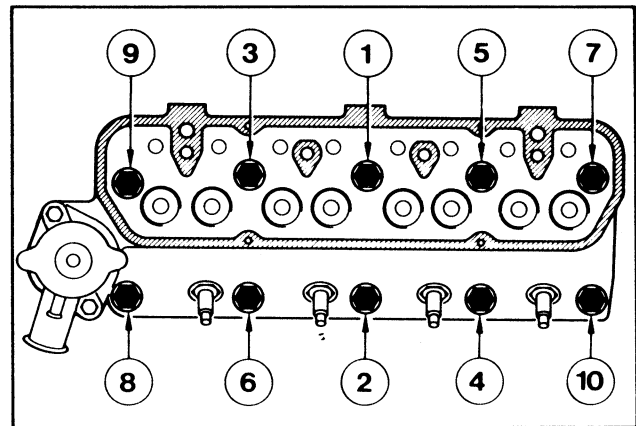

FIG. 51 Cylinder Head Bolt Tightening Sequence
32. Position the cylinder head, remove the pilot studs and install the cylinder bolts. Tighten the bolts down evenly in sequence (Figure 51) and in three steps to specification.